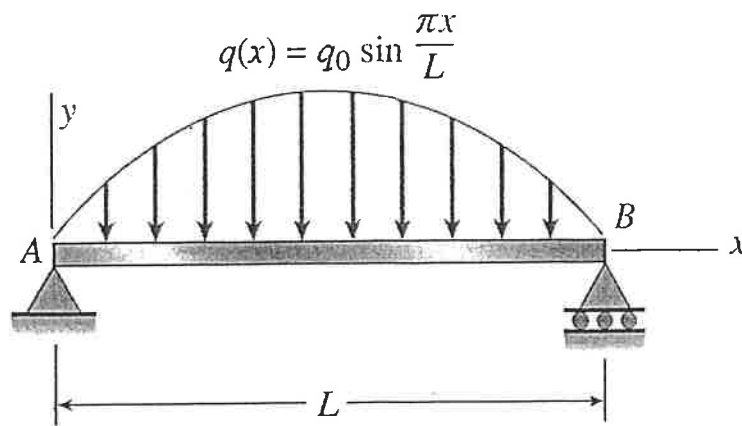

Figure 2
2. A simple beam AB shown in Figure 2 is subjected to a distributed load of intensity $q(x) = q_0 \sin \frac{\pi x}{L}$, where q_0 is the maximum intensity of the load. Determine the maximum absolute value of the bending moment M_{\max} , and the maximum deflection δ_{\max} in the beam. (20%)